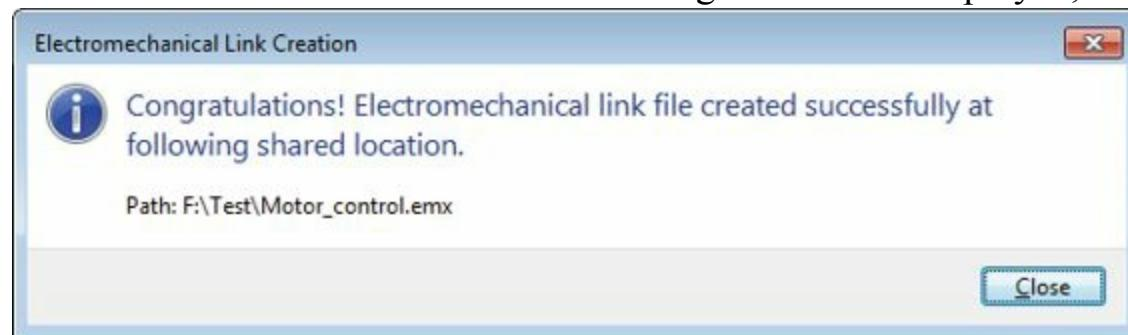

Figure-6. Electromechanical Link Creation dialog box
- Click on the **Create** button from the dialog box. The link file will be created and the **Electromechanical Link Creation** dialog box will be displayed; refer to Figure-6.